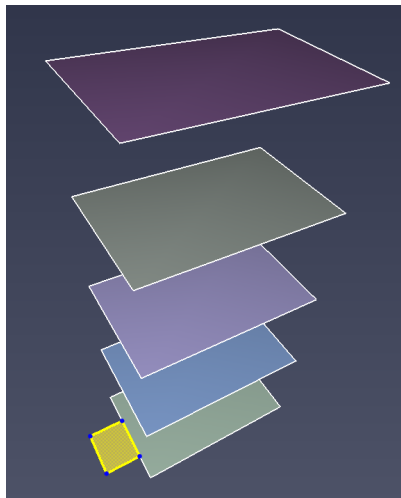

Figure 56. Draw elevator room geometry
1. Draw a room that defines the shape of the elevator, preferably on the discharge floor, see Figure 56.